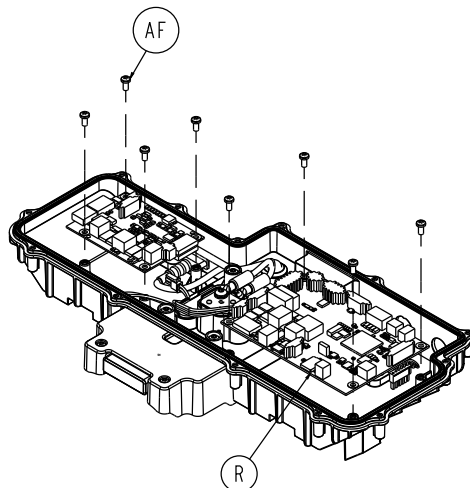

Figure 62 – Remove the FEIB board screws
11. Using a T20 Torx driver, remove the four pan head tapping screws (AF) that secure the cot FEIB board (R) to the bottom FEIB enclosure (Figure 62). Save the screws.